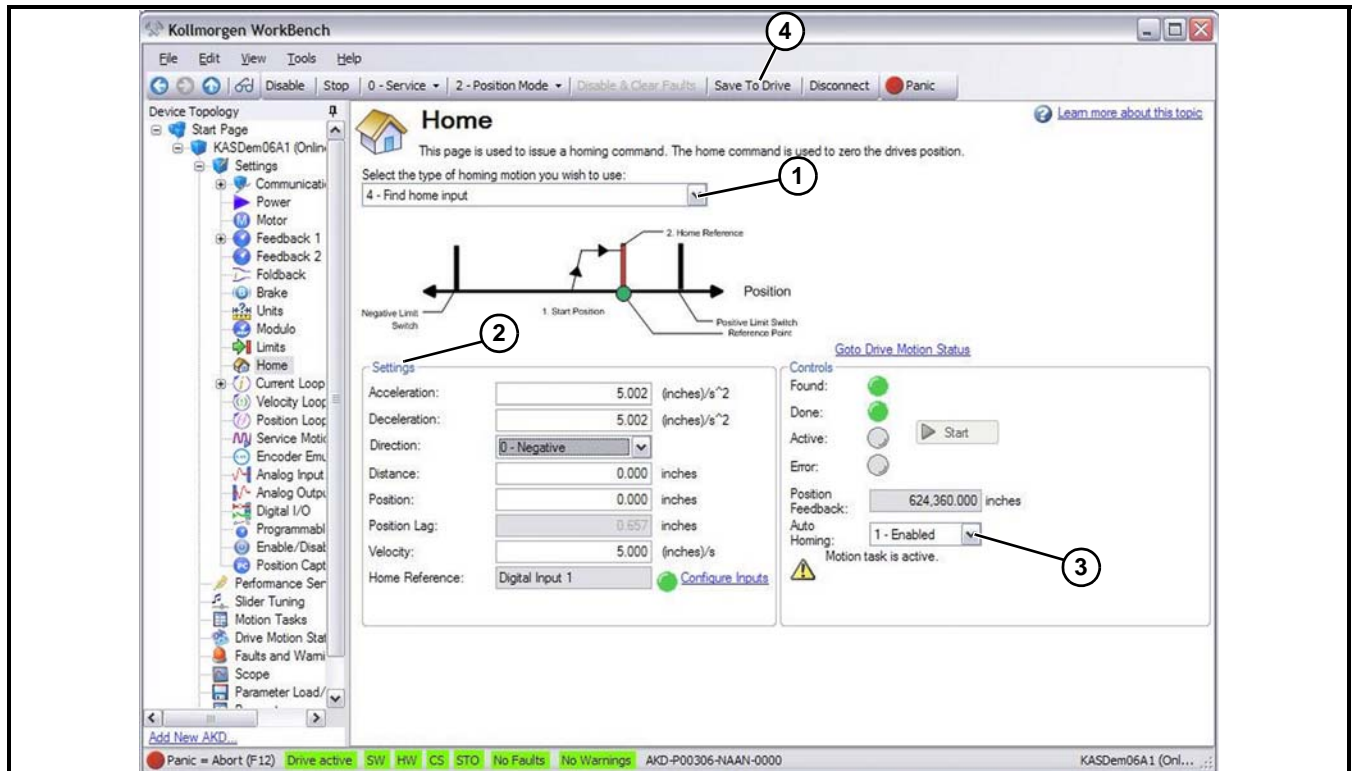

Figure 44
1. Fill in the **Select the type of homing motion you wish to use: (Figure 44, item 1).**
2. Fill in the **Settings (Figure 44, item 2)** Values.
• Set **Auto Homing: (Figure 44, item 3):**
-0- **Disabled** (Requires a signal to initiate Homing routine. Re-program unused digital input for signal (see “II. Programming the Homing Method” on page 45). Select DIN (X) = 5 – Start Home.)
4. Click **Save To Drive (Figure 44, item 4).**